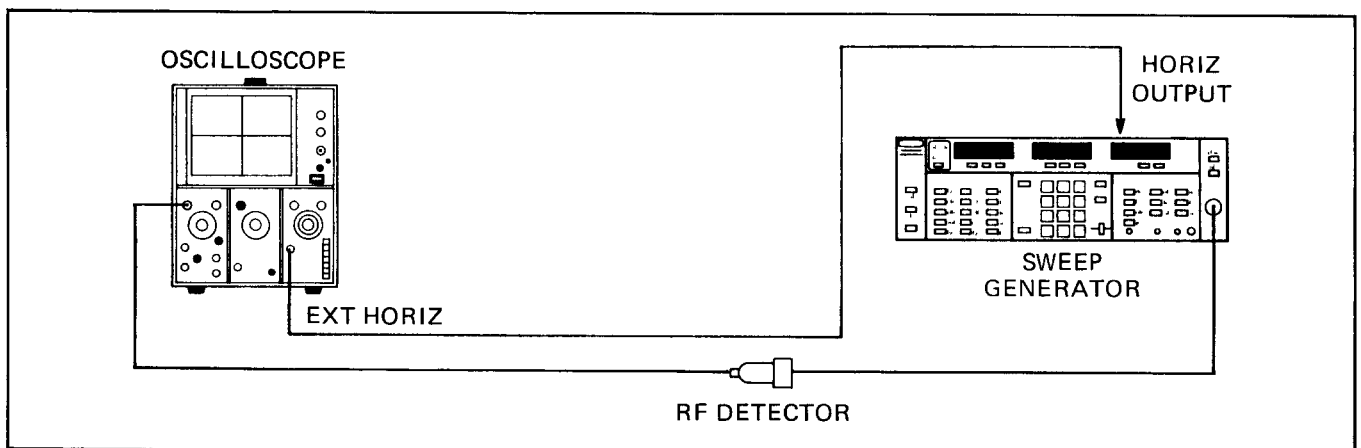

Figure 5-33. Test Equipment Setup for Sweep Rate Compensation Adjustments
- a. Connect the test equipment as shown in Figure 5-33, and turn the equipment on.